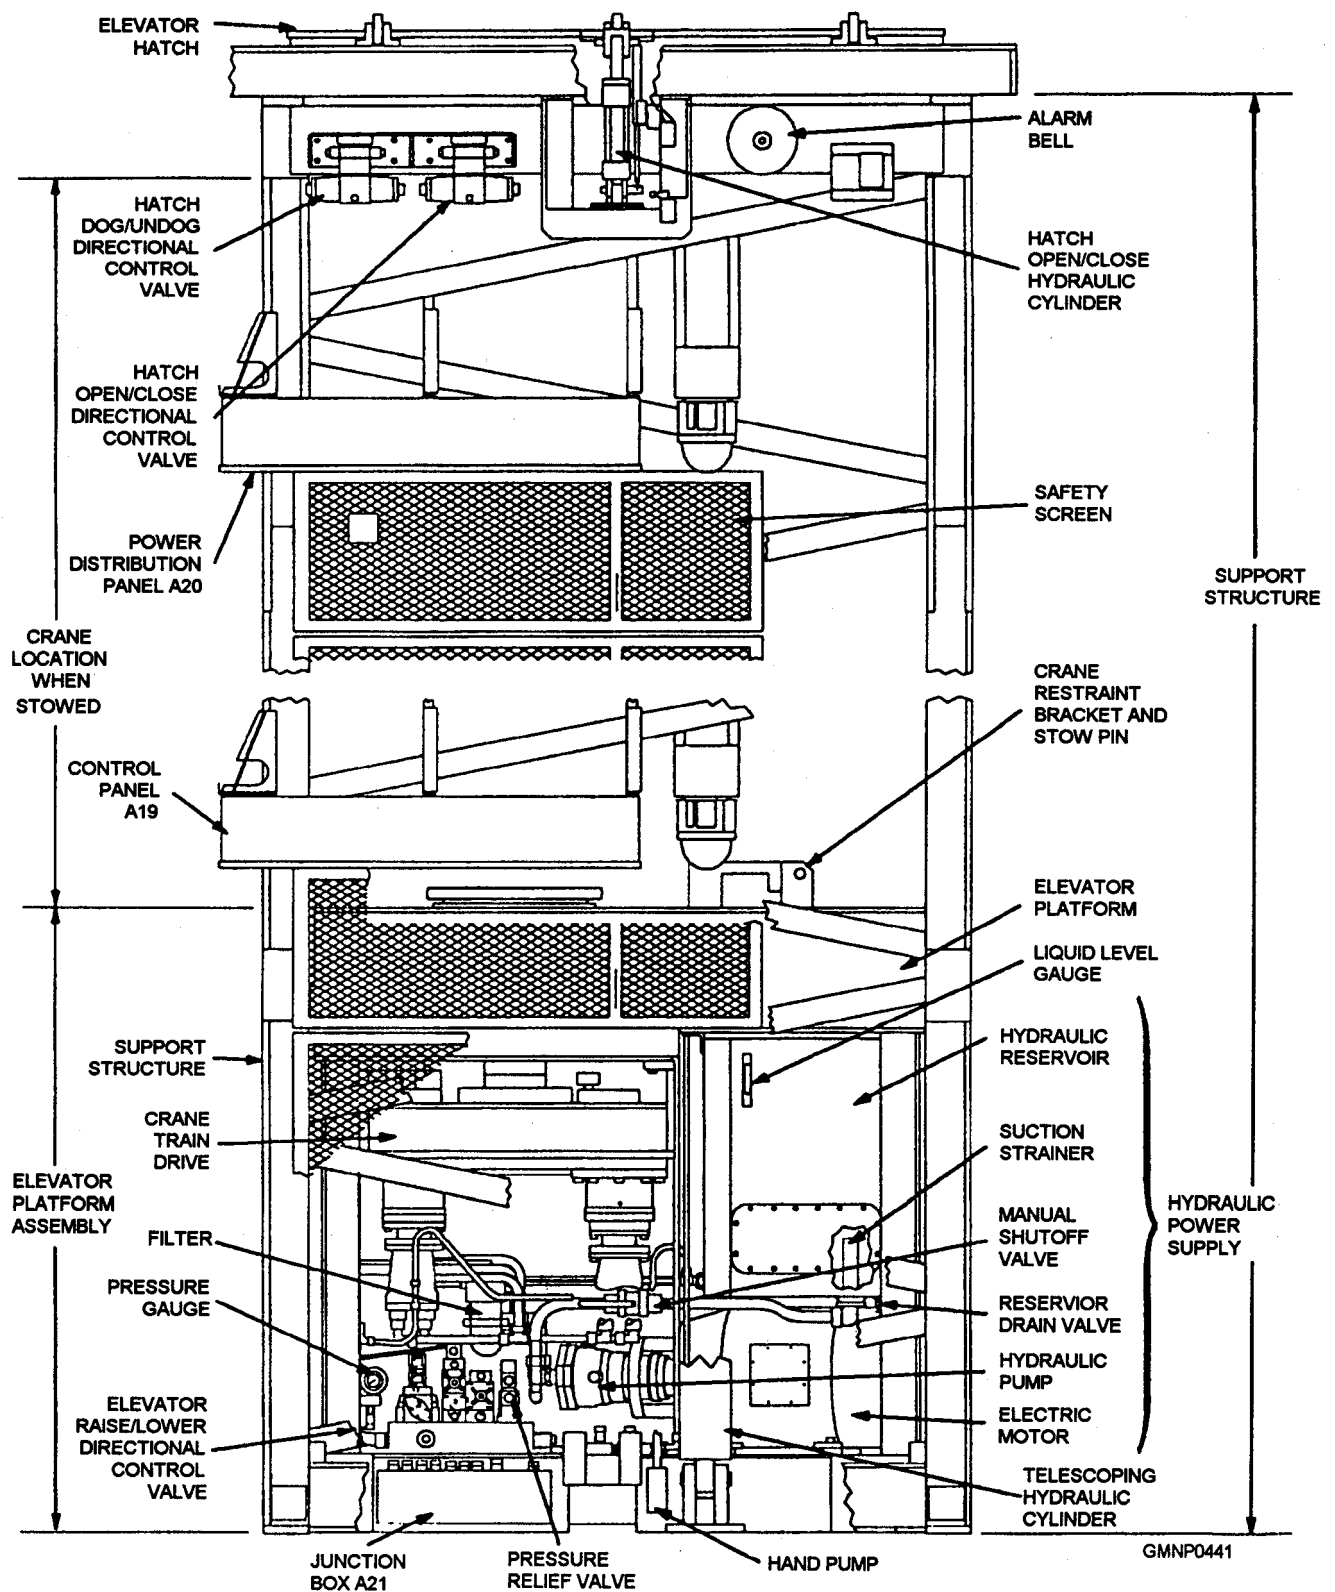
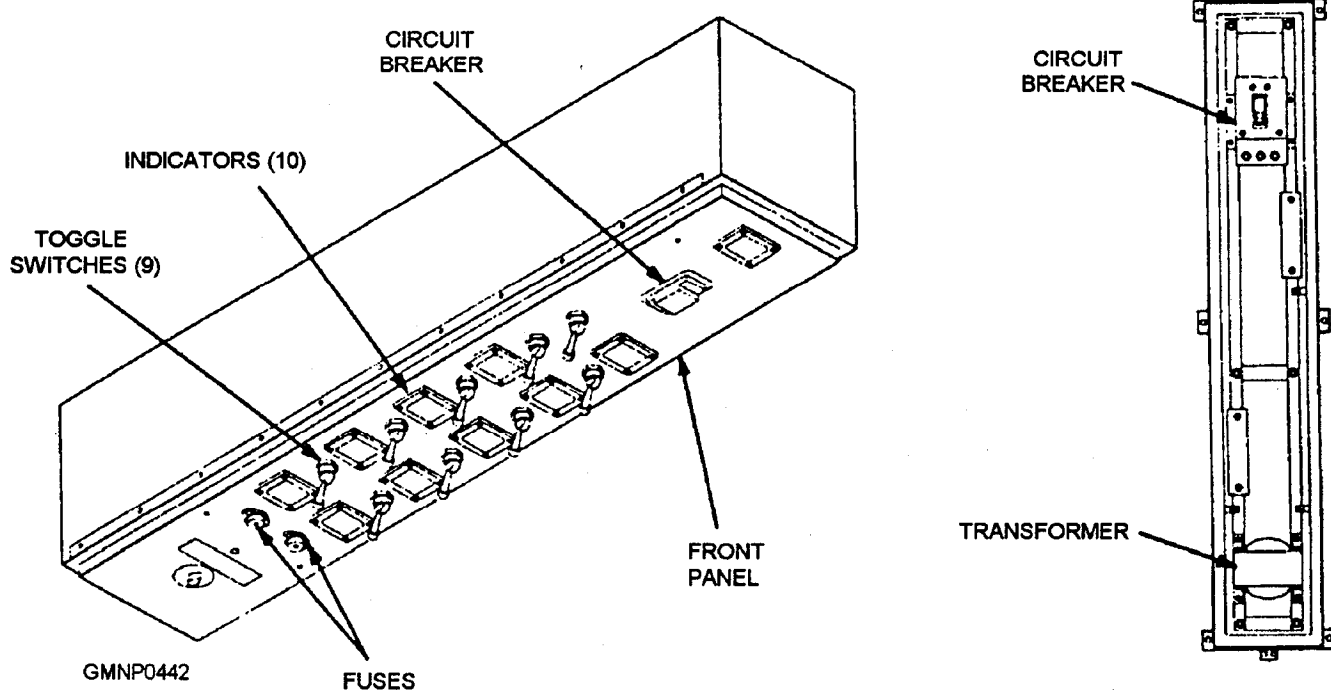
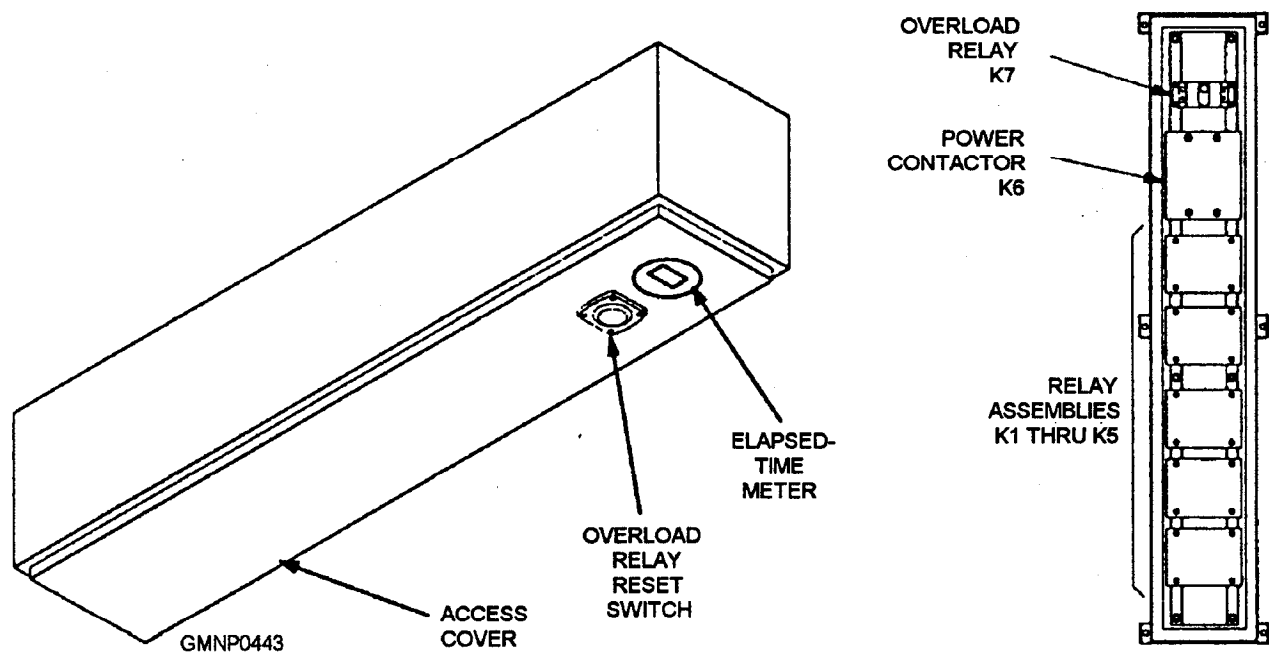

Figure 8-15.—Elevator assembly Mk 2 Mod 0.
Figure 8-16.—Control panel A19.
Figure 8-17.—Power distribution panel A20.
the hatch on the walkway side (fig. 8-15), direct the flow of hydraulic fluid to the hatch dog/undog cylinder and the open/close hatch cylinder. The valves can be actuated manually in an emergency. The hatch operation is controlled by toggle switches located on the control panel A19.
**ELEVATOR ASSEMBLY.**— The elevator assembly Mk 2 Mod 0 shown in figure 8-15 consists of the support structure, elevator platform assembly, control panel A19, and power distribution panel A20. These parts work together to raise and lower the elevator assembly.
The control panel A19 (fig. 8-16) is a watertight cabinet mounted on the elevator support structure just below the upper walkway, as shown in figure 8-15. The A19 control panel lever-lock toggle switches control the motor hydraulic power start-up, elevator hatch, lock bars, and elevator. These switches, except MOTOR-START and MOTOR-STOP, must be actuated and held until the desired function is complete. Except for MOTOR-START and MOTOR-STOP, the operation can be stopped anytime by the release of the toggle switch.
The power distribution panel (PDP) A20 (fig. 8-17) routes the 440-VAC, 60-Hz, three-phase power through a three-phase power contactor to the 30-hp electric motor of the hydraulic power supply. The cabinet is watertight and mounted near the top of the elevator support structure, as shown in figure 8-15. The overload relay reset switch and elapsed time meter (that records component in-service time for the elevator) are located on the access cover.